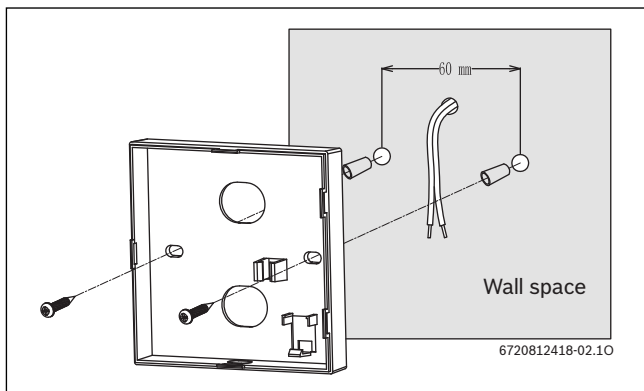

Fig. 5
- Drill two installing holes on the wall, and push swell plastic button in holes. Use screws to fix back cover onto wall surface, (→ see as Fig. 5) (Distance between two holes is 60mm, please try to make uniform height).